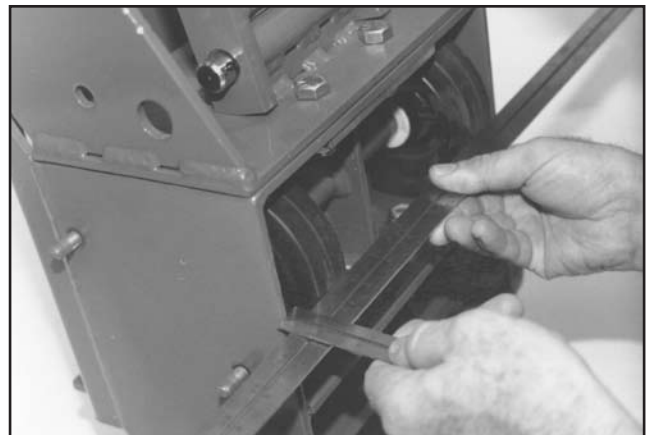

FIGURE 47
3) Position the front casters so that their faces extend approximately 7/16 inch (11.1 mm) beyond the bottom surface of the main frame. Caster wheels have a slight curvature on their faces. The measurement should be taken at the high point of the curvature, FIGURE 47.